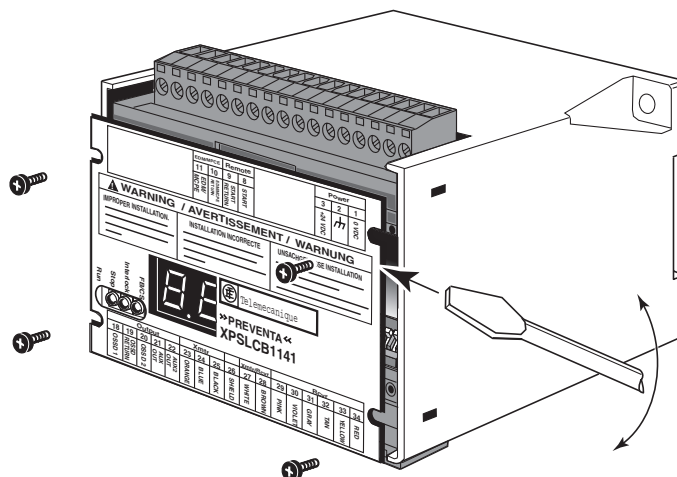

Figure 7: Accessing the DIP Switches
1. Remove the four screws holding the cover in place (see Figure 7).
2. Place the blade of a thin flat-blade screwdriver between the cover and the main controller housing and gently lift the cover off (see Figure 7). The cover is not hinged and can be completely removed.